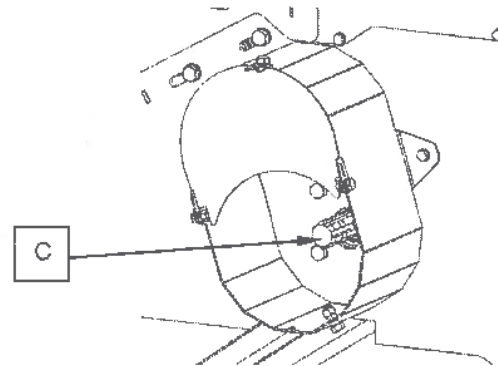

Fig 2
To gain access to the reverser shaft, simply slacken the locking screw (D), and rotate the front guard through 180 degrees, as shown in fig 2.